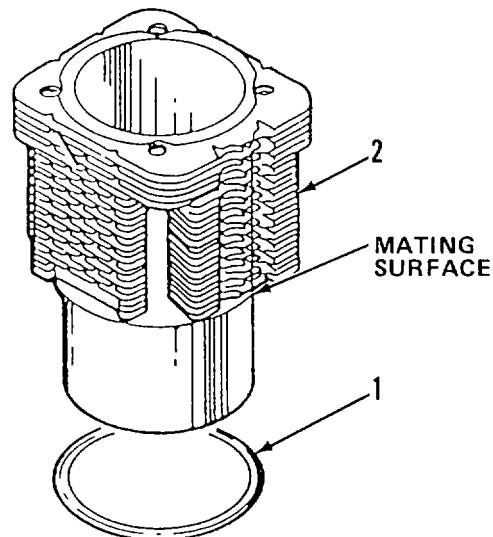

Figure 4-6. Cylinder Liner
- a. **REMOVE.** (Figure 4-6)
- (1) Set piston at Bottom Dead Center (BDC).
- (2) Rotate crankshaft until piston lift cylinder out of crankcase.
- (3) Slide cylinder off piston.
- c. INSTALL. (Figure 4-6)